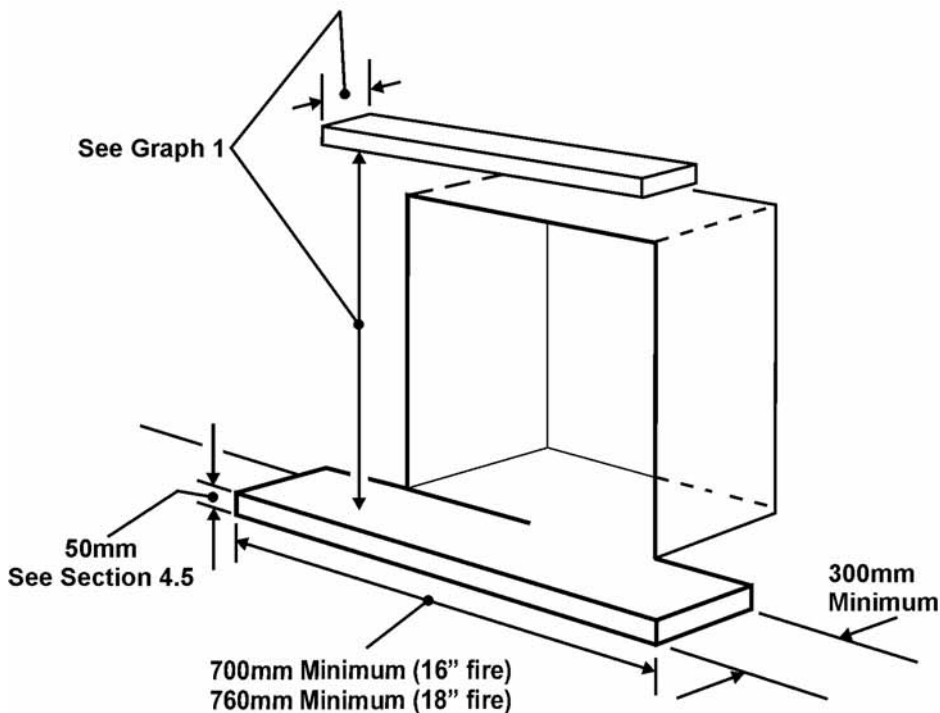

Figure 1. Hearth sizes.
To a fireplace complete with a hearth complying with BS1251. The required hearth and clearance dimensions are shown in figure 1. (Remove any existing heating appliance - when using a convection box it may be necessary to remove the firebrick back). When installing using a convection box see section 6.
For models fitted with the Essence fascia - The fascia has been specifically designed for 'hole in the wall' installations. It is recommended that a hearth should be installed as in figure 1. If a hearth is not fitted, the fire must be installed so that the distance from the base of the fireplace opening in the wall to the finished floor level is at least 115mm (This will give a distance under the fascia of 56mm to the finished floor level). Where there is no floor covering or carpet and the floor is of a type that is likely to be covered in such a way then the distance from the base of the fireplace opening in the wall to the finished floor level should be increased to at least 190mm.
4.5 The appliance must be mounted behind a non-combustible hearth unless the conditions of section 4.3.1 are met (N.B. conglomerate marble hearths are considered as non-combustible). The appliance can be fitted to a minimum class “O” – 150°C surround. The hearth material must be at least 12mm thick. The periphery of the hearth (or fender) should be at least 50mm above floor level to discourage the placing of carpets or rugs over it (See figure 1). On none elevated installations the surface of the hearth must be sufficiently flat to enable the bottom of the fascia and the bottom front cover to be aligned horizontally. Any excessive unevenness (uneven tiles, Cotswold stone, etc.) should be rectified. The base of the fireplace opening must be level with the top surface of the hearth. There should be no gaps between the hearth and the fireplace opening.